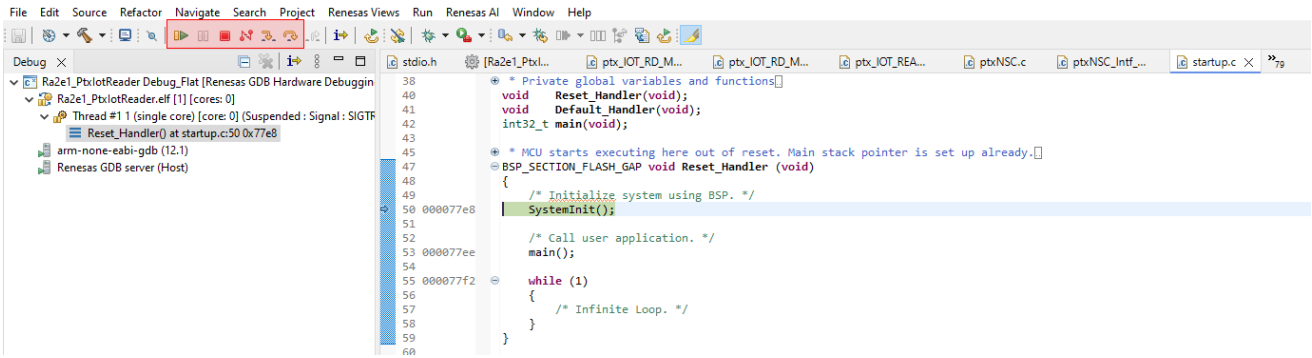

Figure 9. Application Startup Window
5. When completed, click **Resume** twice to start the application (see Figure 9).